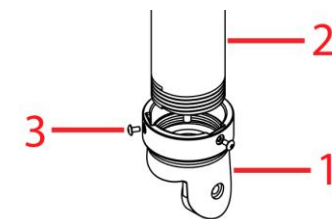

Figure 7
- Place the pendant/pole mount adaptor (1) (Figure 7) around a standard 1 1/2" Male NPT threaded water pipe (2) (Figure 7) and securely attach the two M3x0.5P (L = 6mm) screws on the pendant mount adaptor with the T10 security Torx wrench.